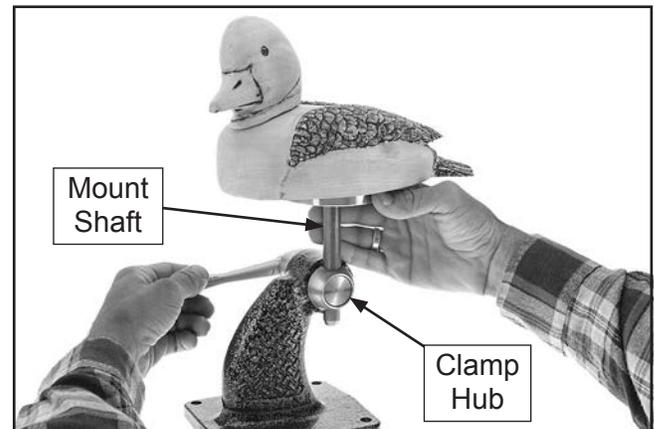

Figure 16. Mounting faceplate with workpiece onto vise.
6. Slide faceplate mount shaft into shaft clamp hub (see **Figure 16**), then tighten lock handle.